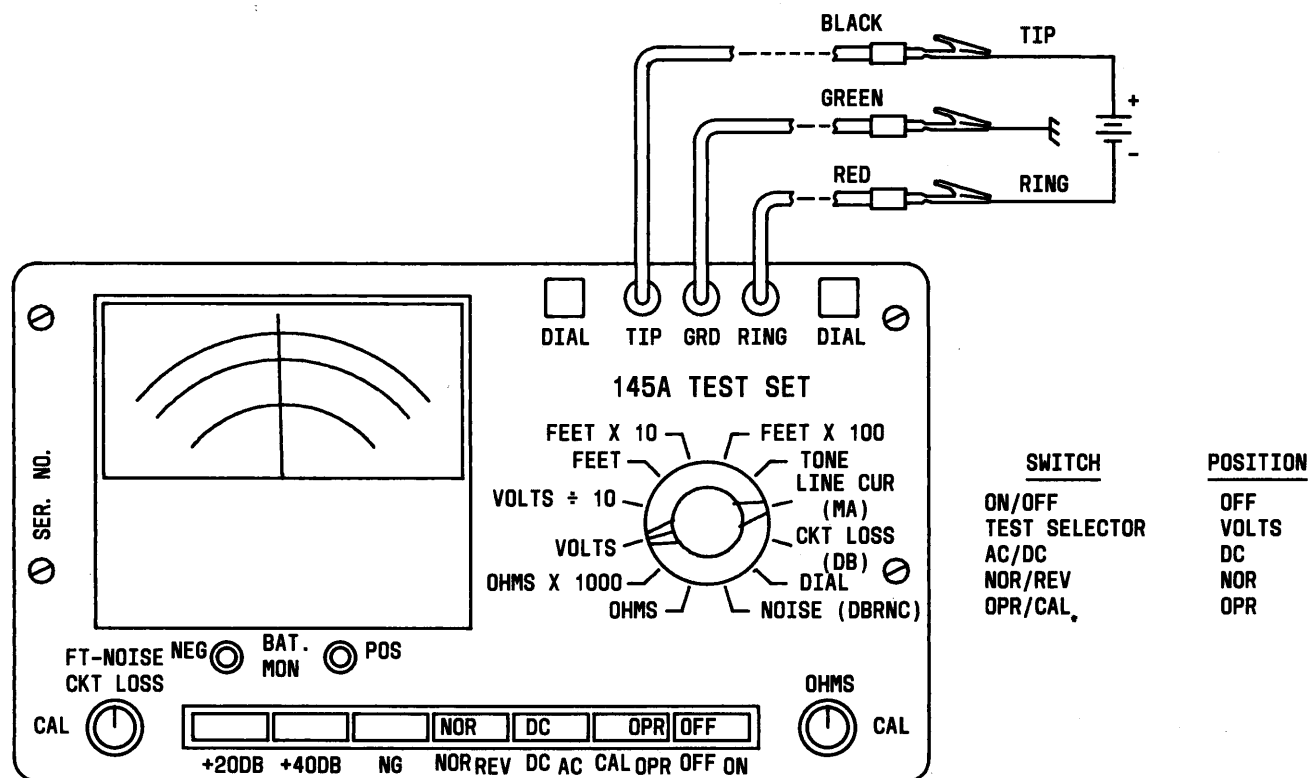

Fig. 4—DC Voltage Measurement
3.06 DC Voltage Measurement (Fig. 4):